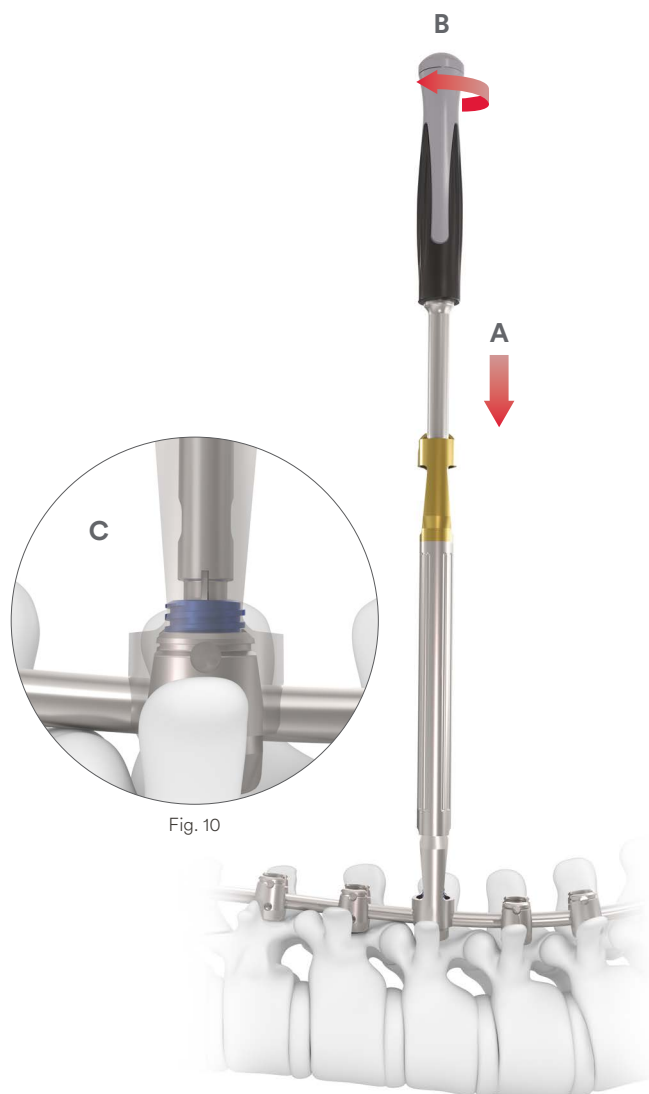

Fig. 10
B. Introduce the **Set Screw** into the head of the screw by turning clockwise (Fig. 10).